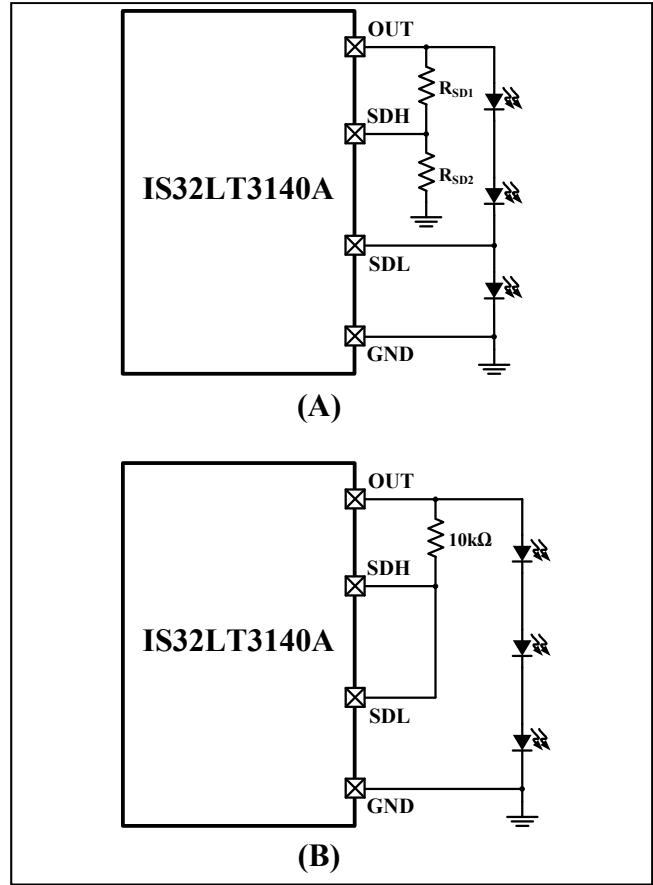

Figure 53 SDH and SDL Connection
In the application, the SDL pin is connected to the anode of the bottom LED and the SDH is connected to OUT pin via a proper resistor divider; Figure 53 (A). The device uses the input voltage of the SDL pin, the forward voltage of the bottom LED, as the reference voltage of the CMP1 to monitor the SDH pin voltage. In case of any upper LED is shorted, the SDH pin voltage V_{SDH} will drop down. If it drops below V_{SDL} but greater than V_{SSH_TH} and persists for longer than the deglitch time t_{FD_SS} , the single LED short protection will be triggered and the FAULTB pin will go low to report the fault condition. The resistor divider ratio can be calculated by:
When the single LED short protection is unused, SDH and SDL pins must be connected together to OUT pin via a $10k\Omega$ resistor. As Figure 53 (B).